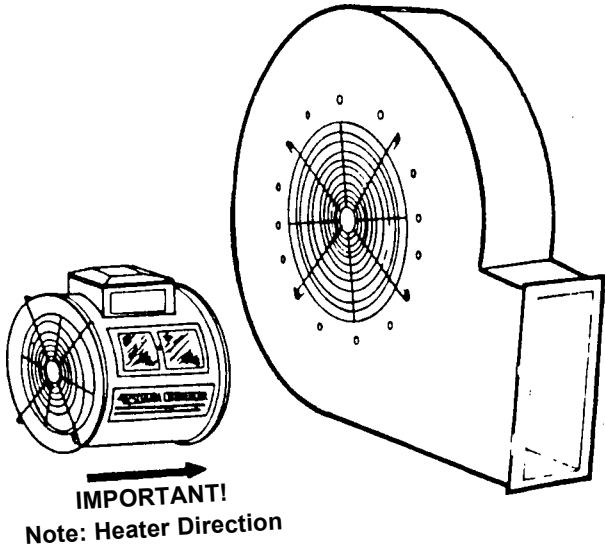

Figure 1: Make sure the LTD Heater is positioned in the right direction.
**control (optional) in heater box as shown in Figure 1. IMPORTANT! THERMOSTAT MUST BE INSTALLED FOR SAFE OPERATION.**